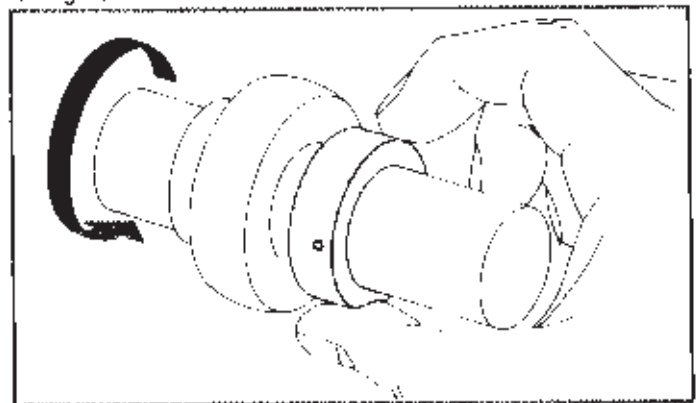

FIGURE 113
- 2 - Press collar **lightly** against inner ring, then turn collar in **direction of shaft rotation** until engaged. Refer to Figure 113.